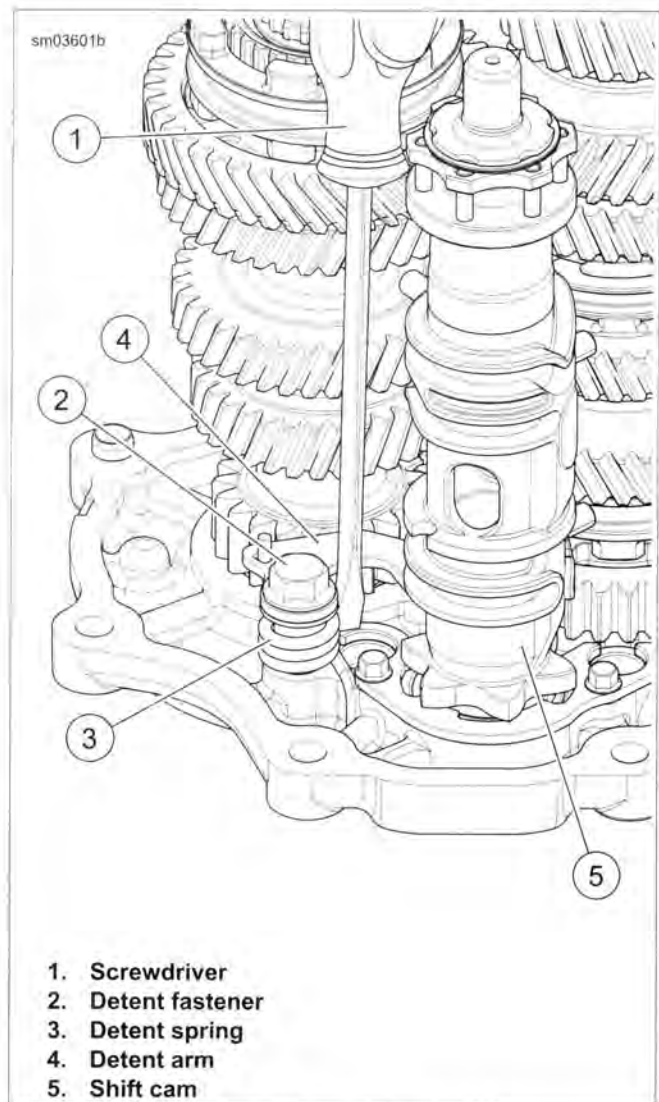
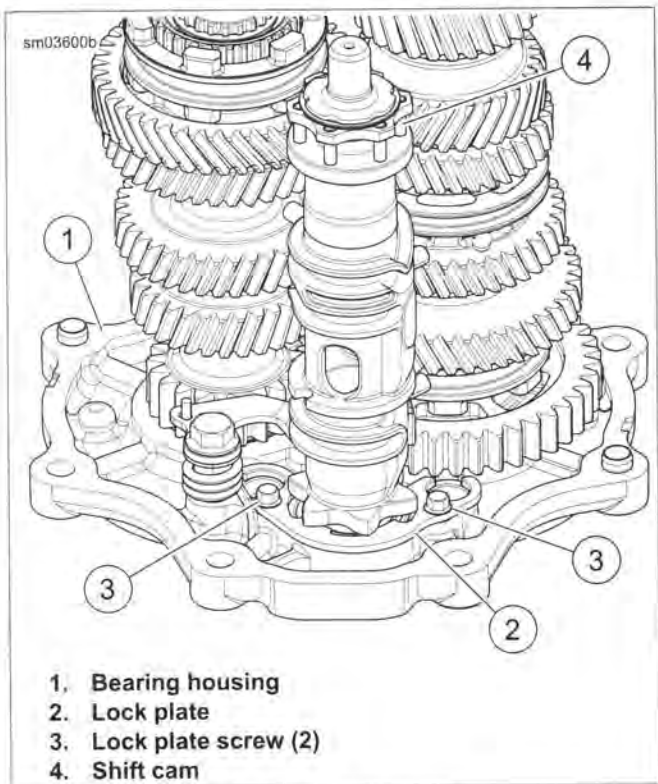

Figure 6-30. Detent Assembly
Figure 6-31. Shift Drum
6. See Figure 6-30. Using screwdriver (1), pull detent arm back to allow installation of shift cam assembly.
7. Install shift cam assembly (5).
8. See Figure 6-31. Install lock plate (2) and **new** lock plate fasteners (3). Tighten to 57-63 **in-lbs** (6.4-7.1 Nm).